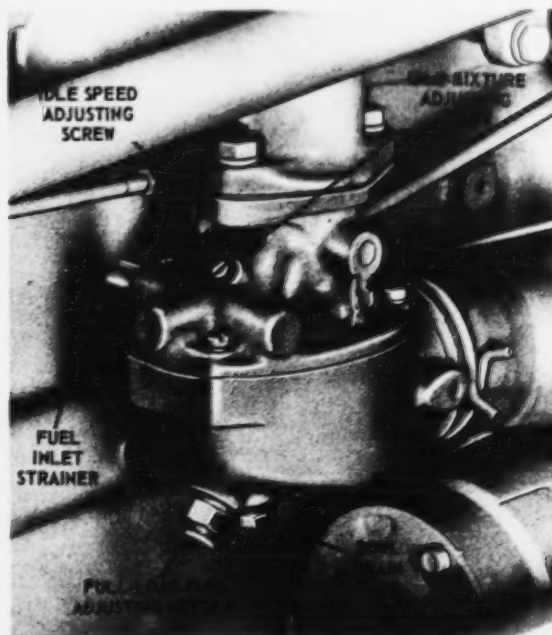

Fig. 20—Adjusting Points On Typical Carburetor
The idle adjusting screw (Fig. 20) determines how completely the throttle valve closes. This controls the idling speed of the engine.
The idle-mixture adjusting screw (Fig. 20) adjusts the fuel-air mixture while the engine is idling.
2. Turn the idle-mixture adjusting screw (Fig. 20) clockwise slowly until the engine begins to "roll" or shake. This decreases the air flow and causes a richer mixture on some engines and decreases fuel flow on other engines, resulting in a leaner mixture. The engine isn't getting the correct fuel-air mixture when it idles roughly.
The valve which controls the fuel for full-load or high-speed conditions is called "main adjusting needle", "power-adjusting needle", or "full-load fuel adjusting needle" (Fig. 20). Many later model engines do not have this adjustment (are preset at factory).